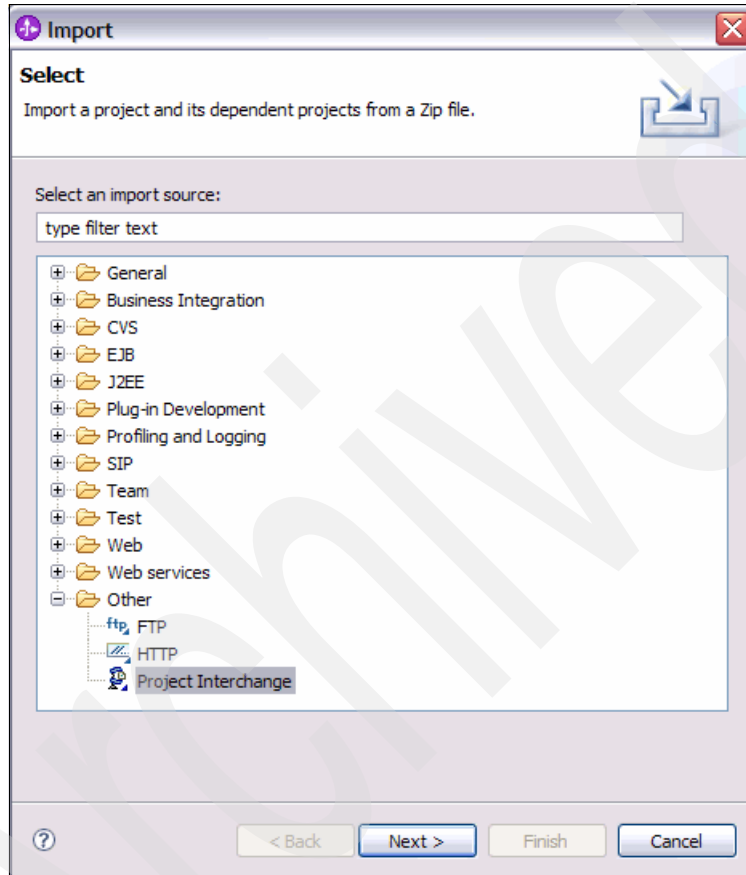

Figure 5-4 Importing a Project Interchange file
- b. In the Import window (Figure 5-4), expand **Other** and select **Project Interchange**. Then click **Next**.